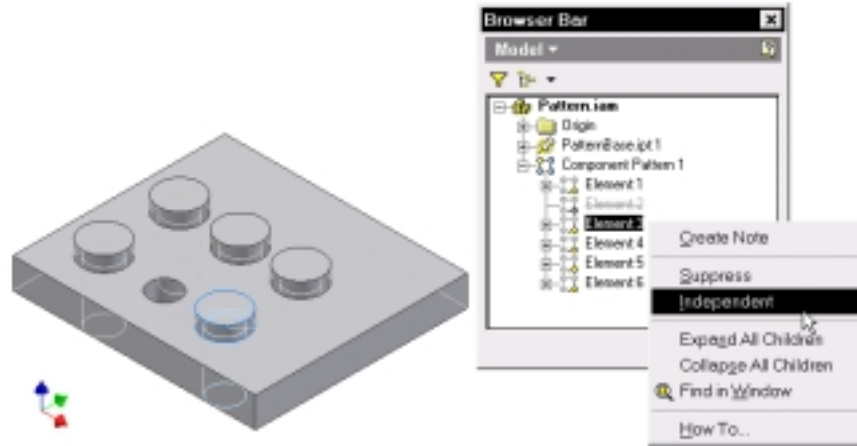

Figure 3-42
22. With reference to Figure 3-42, select an element of the assembly pattern from the browser, right-click, and select Independent.